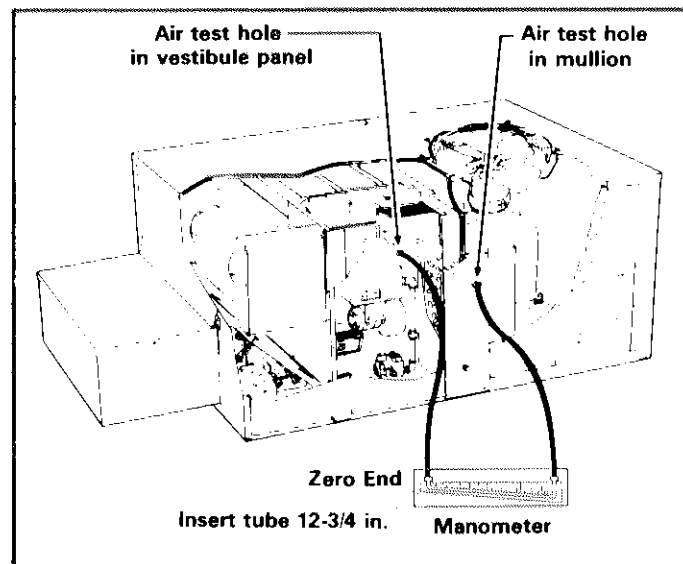

FIGURE 19
- 1 - The air test hole on the air inlet side of the coil is located in the burner compartment vestibule panel. See Figure 19. The air test hole on the outlet side of the coil is located in evaporator mullion.